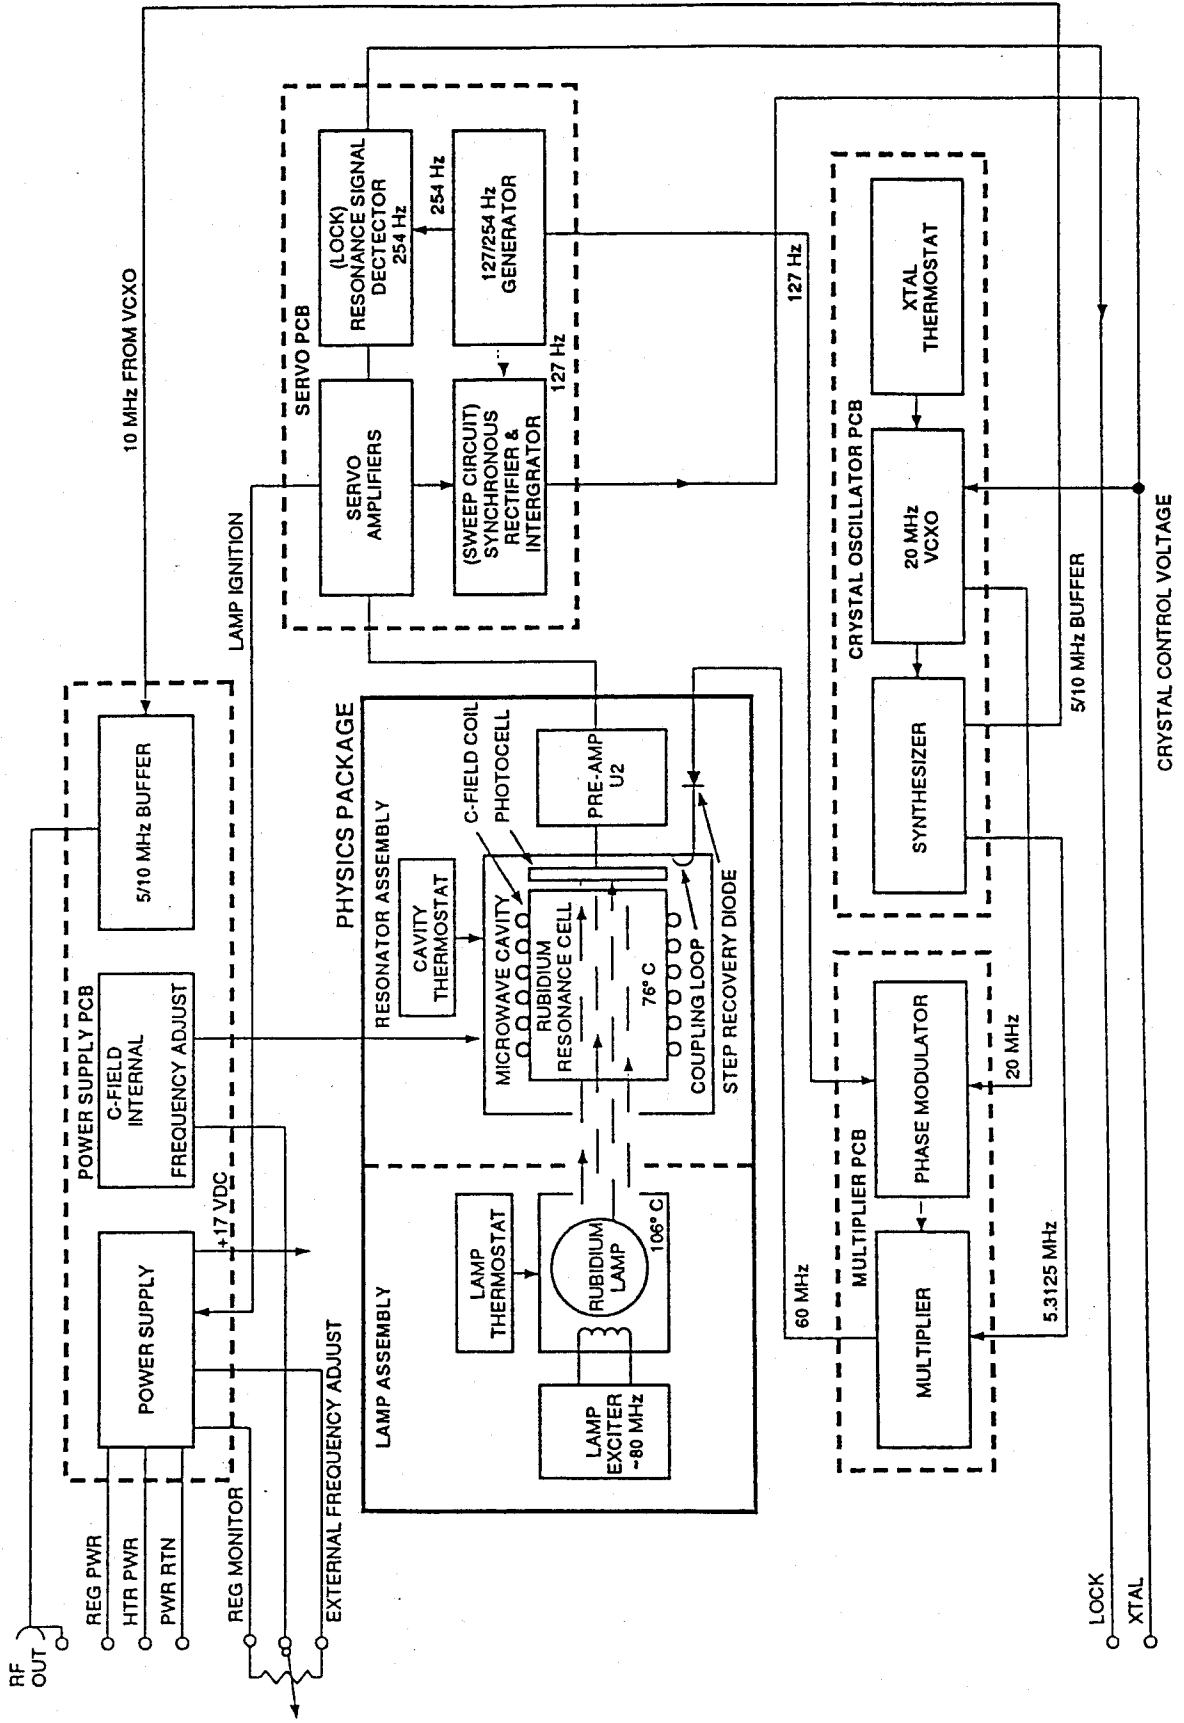

Figure 3-6. Detailed Block Diagram, FRS.
**3.3 DETAILED CIRCUIT DESCRIPTIONS.** Figure 3-6 (and the interconnect/wiring diagram in Appendix A) illustrate the interconnections of the flex board, physics package and the associated circuitry and circuit board assemblies that comprise the rubidium frequency standard.